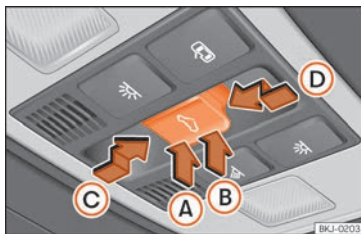

Fig. 141 On the interior roof lining: sunroof button.
The ⇐ button »» Fig. 141 has two levels. The first level switches the sunroof to the tilted position, opening or closing it fully or partially.
- Within approximately 5 seconds of having activated the roll-back function, press the **» Fig. 141** button to the second level in the direction of arrow **» Fig. 141 D** until the sunroof closes completely.